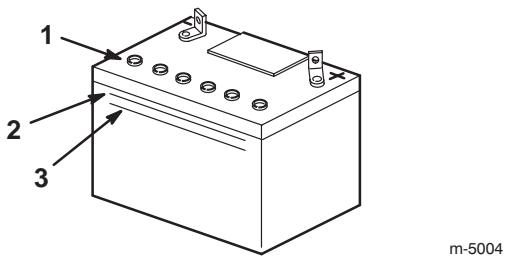

Figure 16
2. Look at the side of the battery. The electrolyte must be up to the Upper line (Fig. 16).
Note: Do not allow the electrolyte to fall below the Lower line (Fig. 16).
3. Remove the vent caps from the battery (Fig. 16).
4. Slowly pour distilled water into each battery cell until the electrolyte level is up to the Upper line (Fig. 16) on the battery case.
5. Wait 5 to 10 minutes after filling the battery cells. Add distilled water, if necessary, until the electrolyte level is up to the Upper line (Fig. 16) on the battery case.